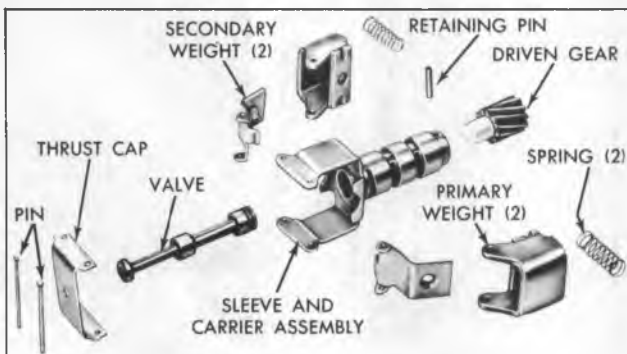

Figure 42—Governor Assembly Components
1. Cut off one end of each governor weight pin and remove pins, governor thrust cap, governor weights, and springs. Governor weights are interchangeable from side to side and need not be identified (fig. 42).